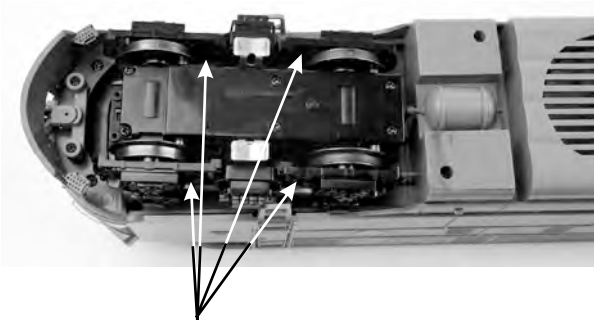

Figure 27: Truckside Mounting Screw Locations
1. Remove the truck sides from the truck block in order to slip the new tire over the grooved drive wheel. Each truck side is attached to the truck block via (2) screws as noted in Figure 27.